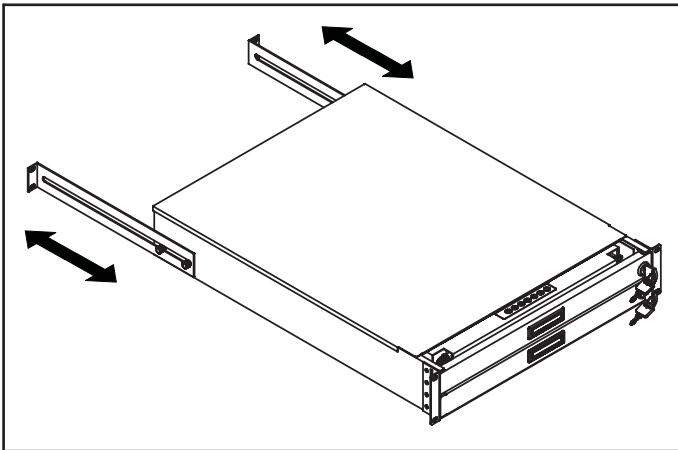

Figure 2. Aligning the rear L-brackets to a suitable length for the rack.
- Align each rear L-bracket to a suitable length and tighten the fasteners shown in Figure 2.